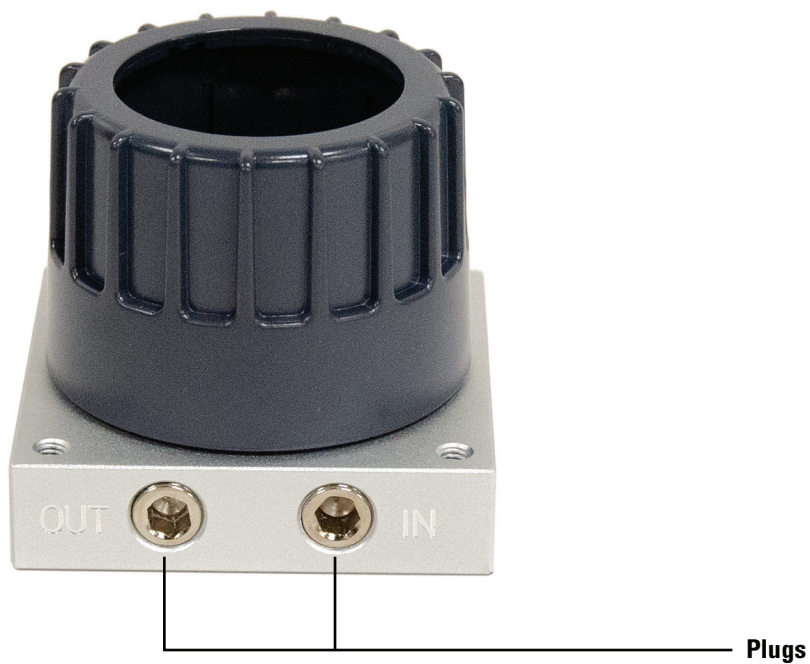

Figure 7. Plugs installed on the end of the connecting unit
- c** Install the plugs on the end of the connecting unit using a 5-mm hex wrench (**Figure 7**).